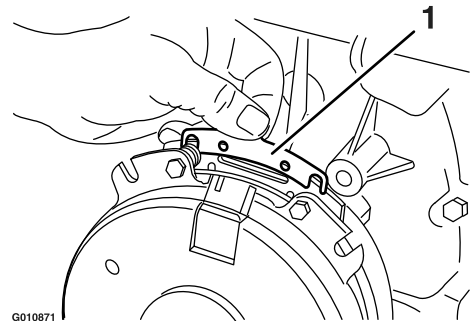

**Figure 77**
- A. Loosen both brake mounting bolts 1/2 to 1 full turn as shown in Figure 77.